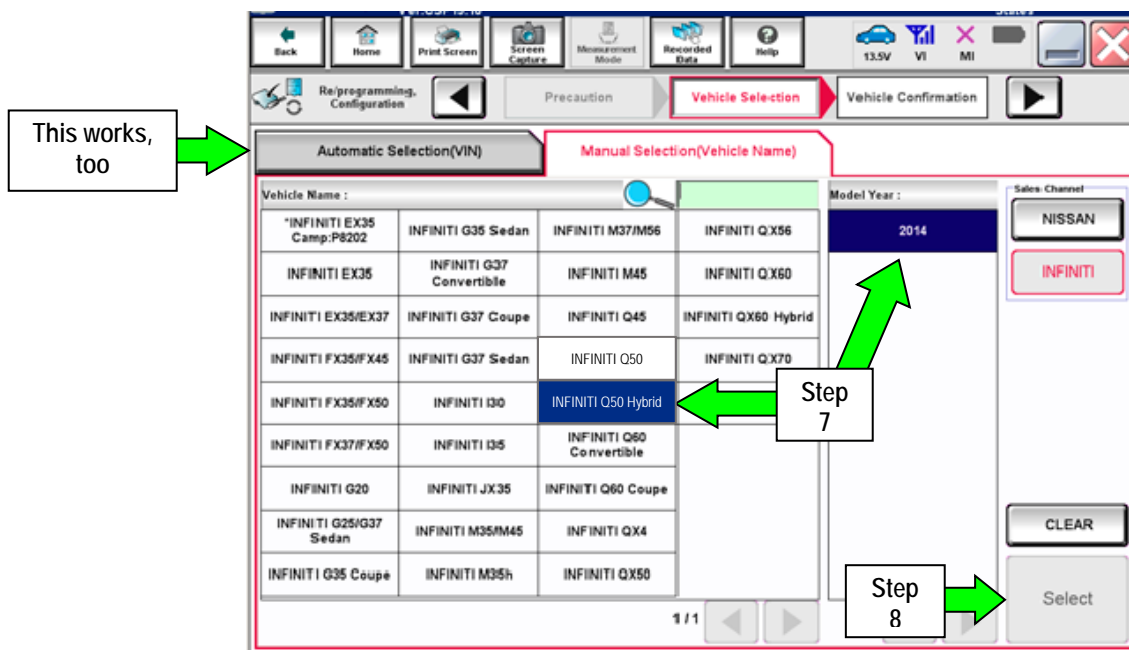

Figure A3
- If **Automatic Selection (VIN)** is selected, or the screen in Figure A3 does not display, skip to step 9.